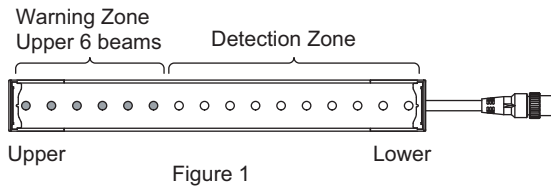

Figure 1
You can teach a warning zone by interrupting beams to be set as the zone, or manually specify number of beams from top or bottom beam. (figure 1 & 2)
- Setting from F3SJ's upper beams (figure 1)